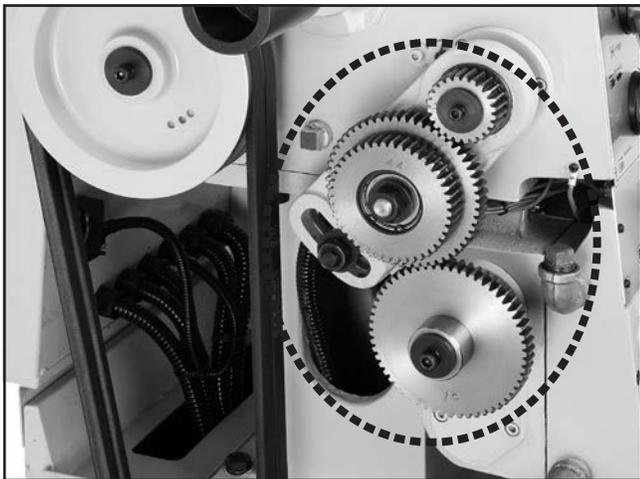

Figure 109. End gears.
The end gears, shown in **Figure 109**, should always have a thin coat of heavy grease to minimize corrosion, noise, and wear. Wipe away excess grease that could be thrown onto the V-belts and reduce optimal power transmission from the motor.
2. Remove the end gear cover and all the end gears shown in **Figure 109**.